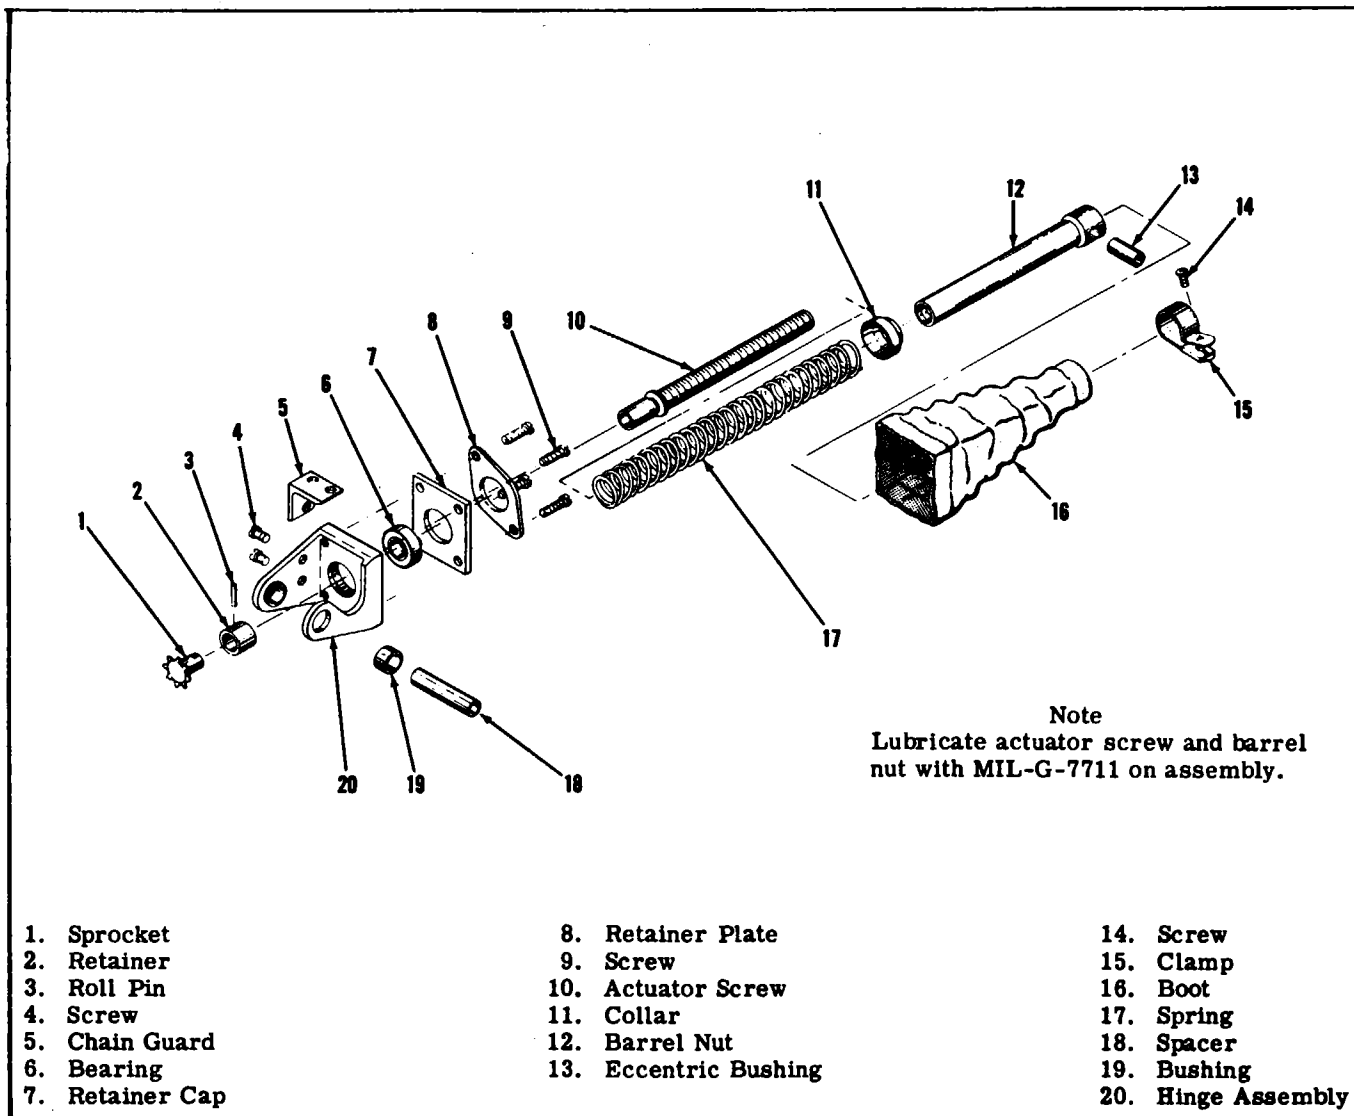

Figure 11-4. Stabilizer Screw-jack Actuator
e. If necessary, remove screws (43) attaching chain guard.
**11-7. STABILIZER ACTUATOR OVERHAUL.****11-8. DISASSEMBLY OF STABILIZER ACTUATOR. (See figure 11-4.)**
- a. Loosen and remove screw (14) and boot retaining clamp (15).
- b. Carefully break the cemented bond between boot (16) and hinge assembly (20).
- c. Slide the boot (16), small end first, from the stabilizer actuator assembly.
- d. Unscrew and remove the barrel nut assembly (12) from the actuator screw (10).
- e. Slide the collar (11) and spring (17) from the actuator screw (10).
- f. Cut the safety wire, and remove the four screws (9) securing plate (8) and cap (7) to the hinge assembly (20). Remove plate (8) and cap (7).
- g. Remove screws (4) securing chain guard (5) and remove the chain guard.
- h. Using a 1/16 inch drift pin, punch out roll pin (3). Pull sprocket (1) and retainer (2) from actuator screw (10).
- i. Using a rubber mallet, lightly tap the actuator screw (10) out of bearing (6).
- j. Spacer (18) and eccentric bushing (13) may be removed if desired by pushing them from their respective holes.
- k. If necessary, bearing (6) may be removed by pressing bearing out of hinge assembly (20).
- l. Bushings (19) are a press fit. Removal of these bushings is not recommended.
**11-9. REPAIR OF STABILIZER ACTUATOR. (See figure 11-4.)**
- a. If bearing is being replaced, press bearing (6)